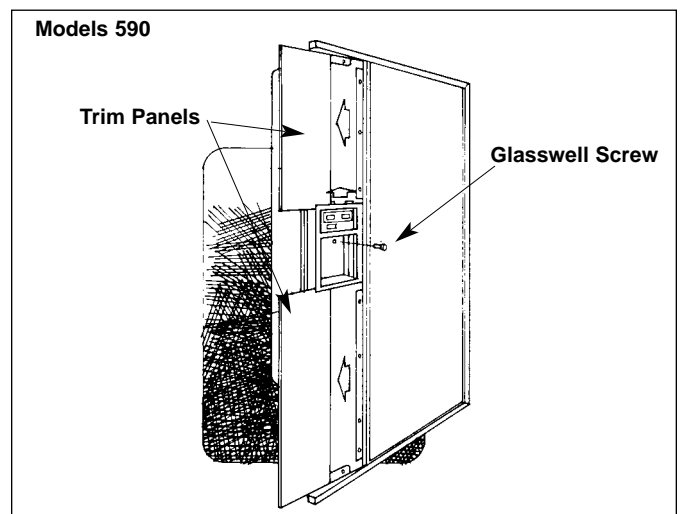

Figure 2-18. Door Trim Panels
3. Remove the trim panel(s) by sliding them out of the doors (Figure 2-18).
3. **Refrigerator Door Assy. Only.** Remove the water and ice glasswell by removing the glasswell screw (Figure 2-18). Slide the glasswell up and pull out.
2. Remove the glasswell screw. Slide the glasswell assembly up and out (Figure 2-18).